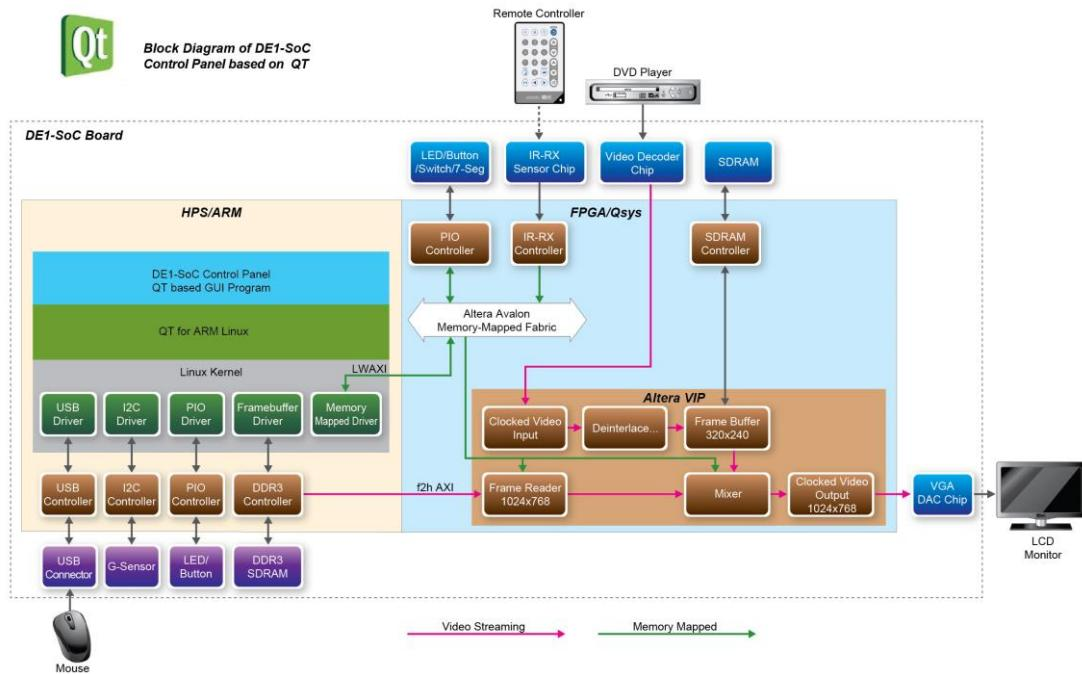

Figure 1-1 Block Diagram of the Control Panel
**Figure 1-1** shows the block diagram of the Control Panel where user can see the Control Panel program is running on Linux on the left-hand side. The program GUI is built based on QT library and it can access the FPGA resources through the AXI bus. The Linux Frame Buffer Display